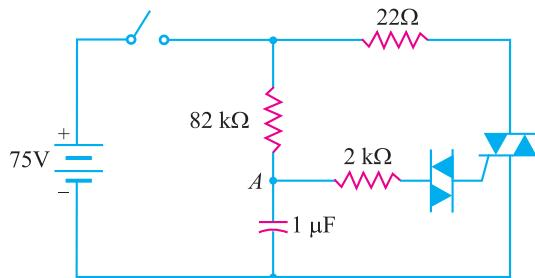

**Fig. 21.22**
**Solution.** The rated values of  $V_{GT}$  for triacs are generally low. For example, the triac shown in Fig. 21.22 (i) has  $V_{GT} = \pm 2V$ . However, we can raise the triggering level of the triac by using a *diac* in the gate circuit as shown in Fig. 21.22 (ii). With the diac present, the triac can still be triggered by both positive and negative gate voltages. However, to fire the triac into conduction, the potential  $V_A$  at point A in Fig. 21.22 (ii) must overcome the  $V_{BO}$  (breakover voltage) for the diac plus  $V_{GT}$  i.e.